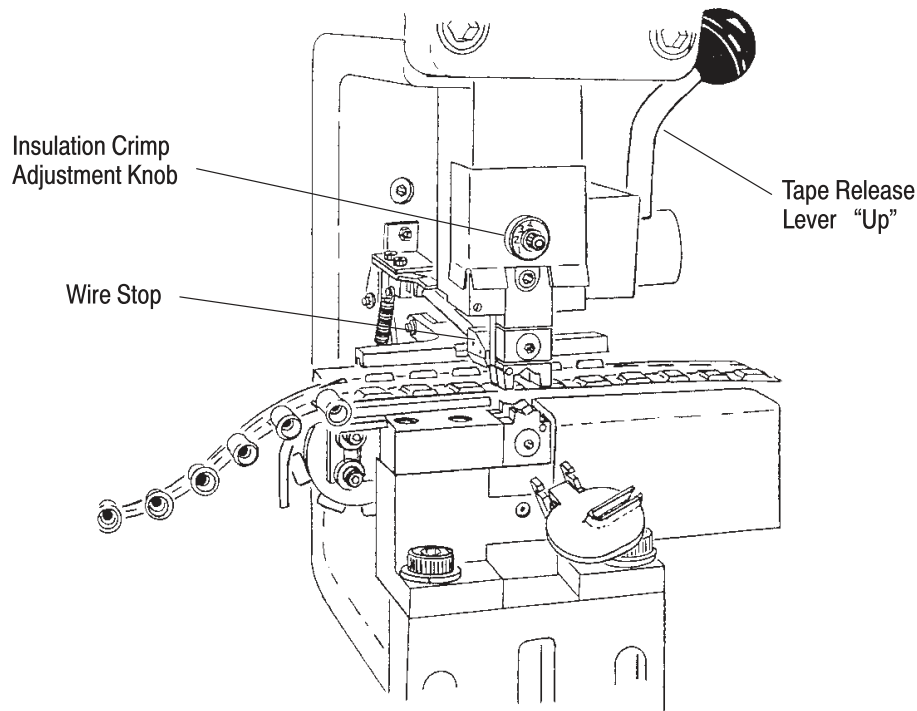

Figure 17
7.2. Insulation Crimp Adjustment (Figure 17)